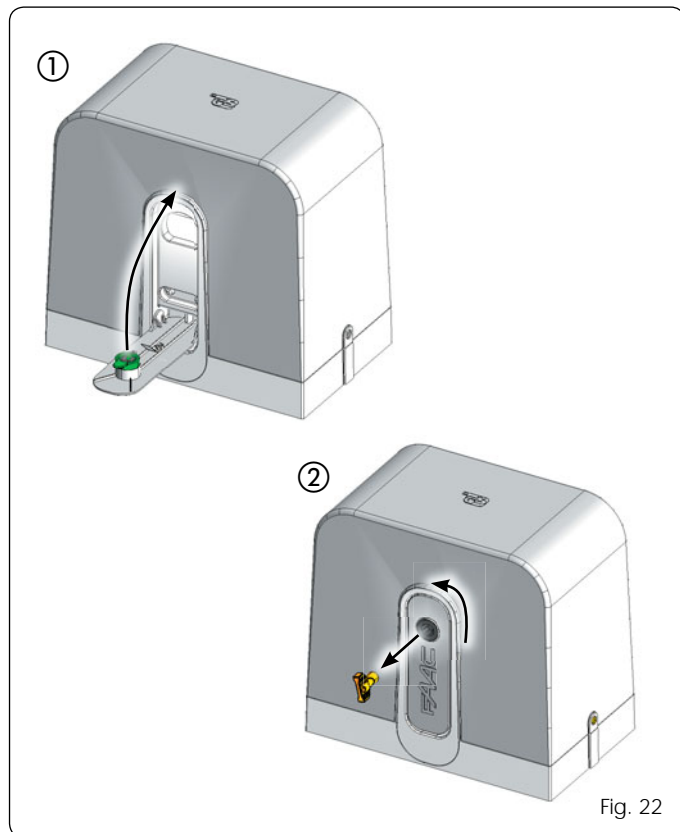

Fig. 22
1. Fully raise the release lever to the mechanical stop, Fig. 22 re. ①.
2. Turn the release anticlockwise as shown in Fig. 22 re. ②.